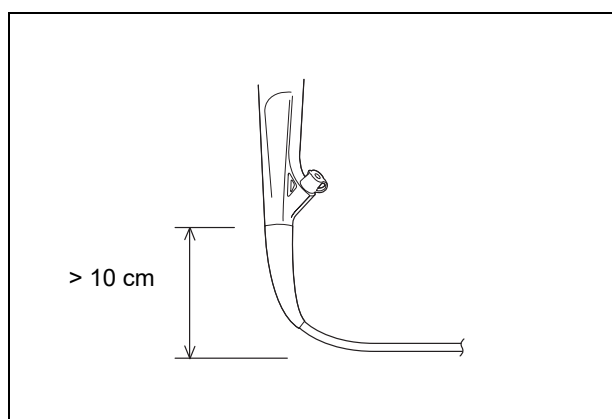

Figure 4.2
- Do not allow the insertion section to be bent within a distance of 10 cm or less from the junction of the boot. Insertion section damage can occur (see Figures 4.2 and 4.3).